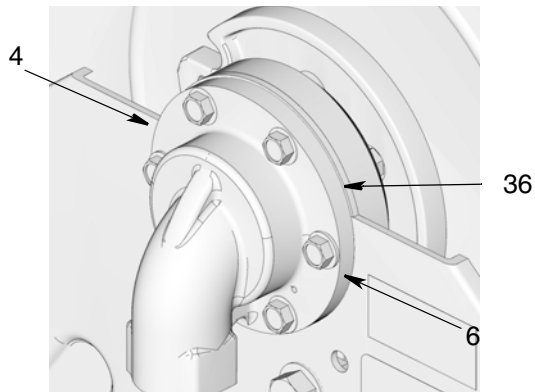

FIG. 16
- a. Medium Pressure Models ONLY: On the inlet side, remove bolts (4), inlet (6) and shim (36) (FIG. 16).
**NOTE:** Do not lose the shim (36). You will need it for reassembly.